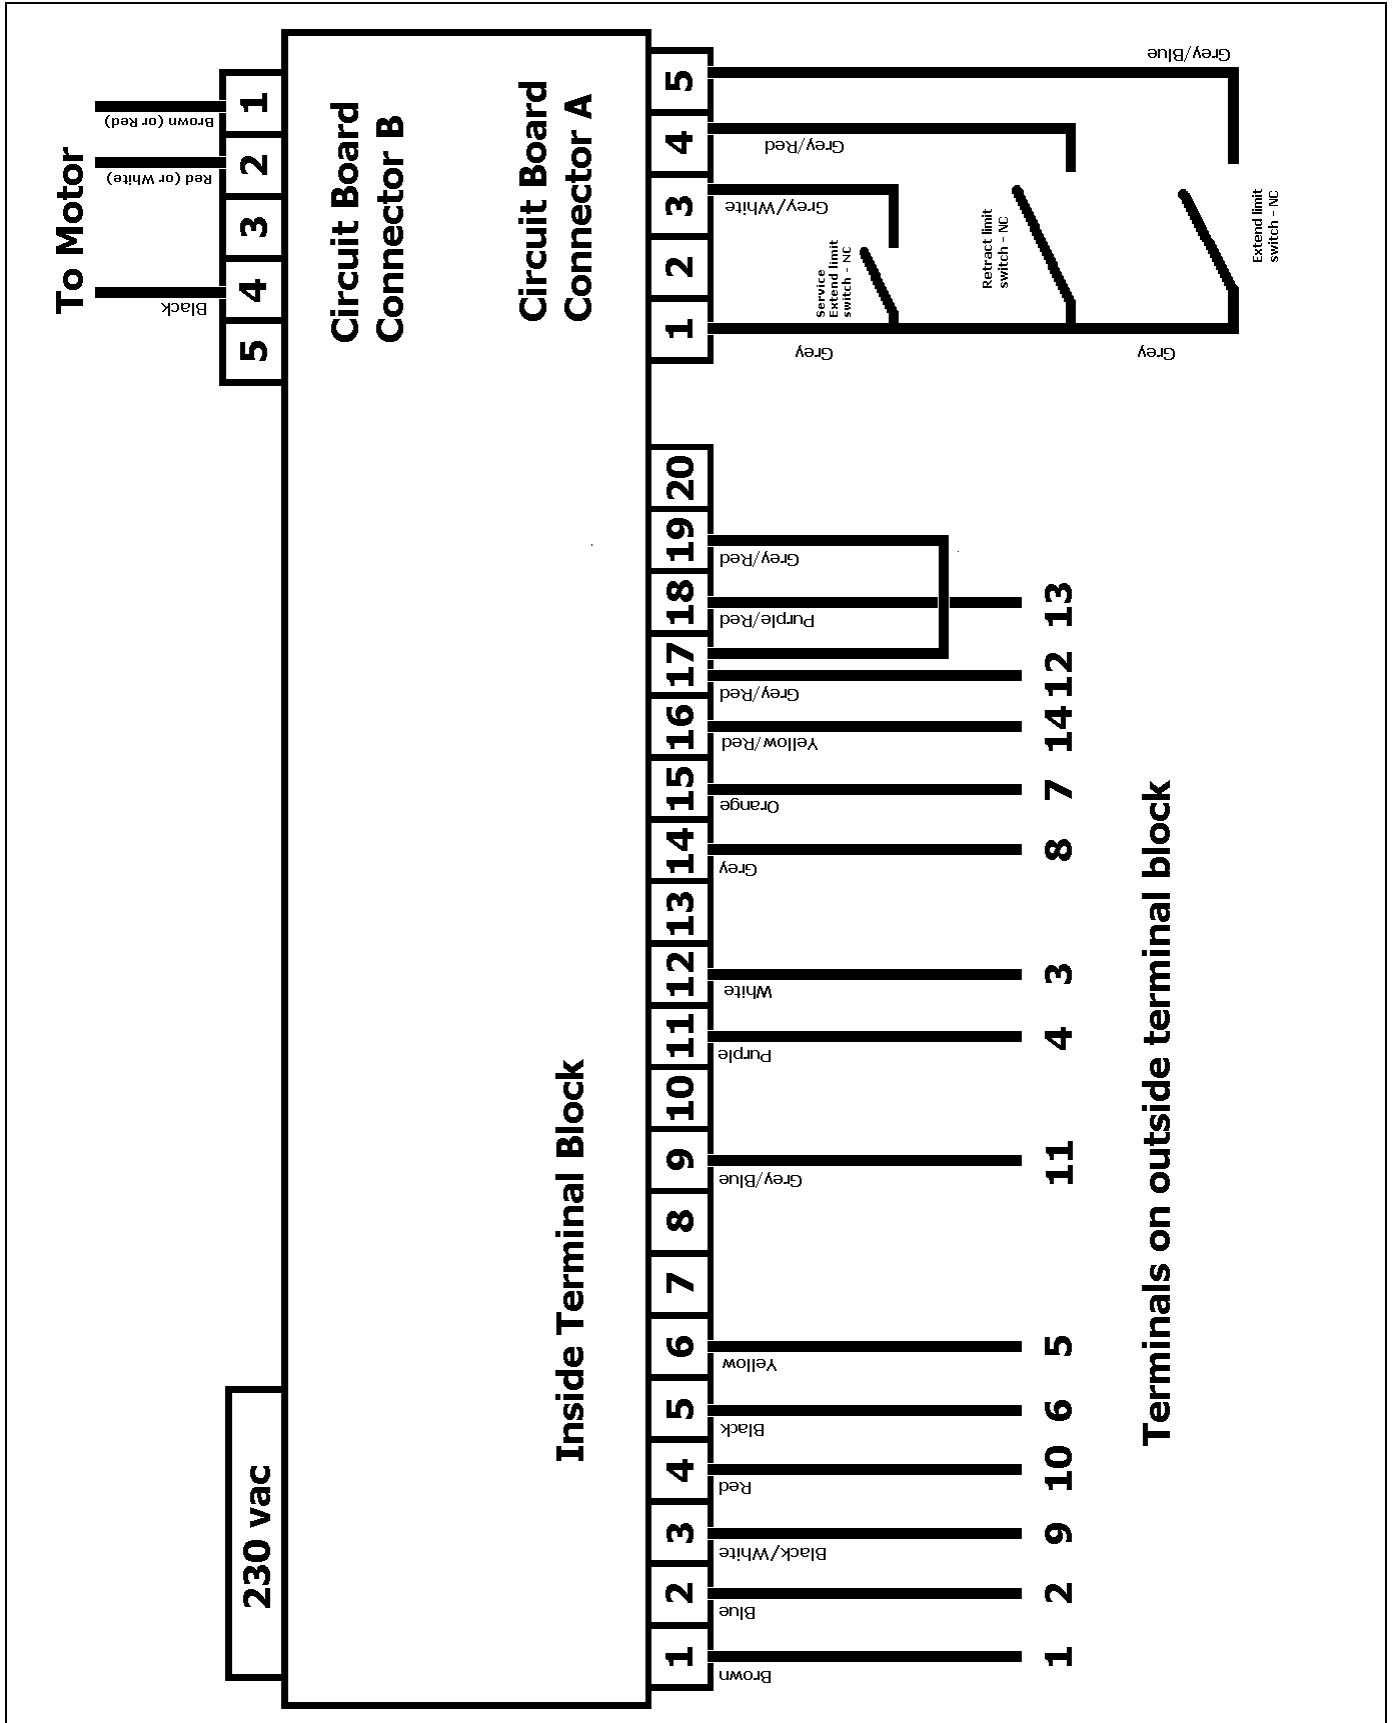

Figure 19
**NOTE:** Refer to Table 2: Internal Terminal Descriptions and (See Figure 19) for terminal descriptions, functions and wiring options.